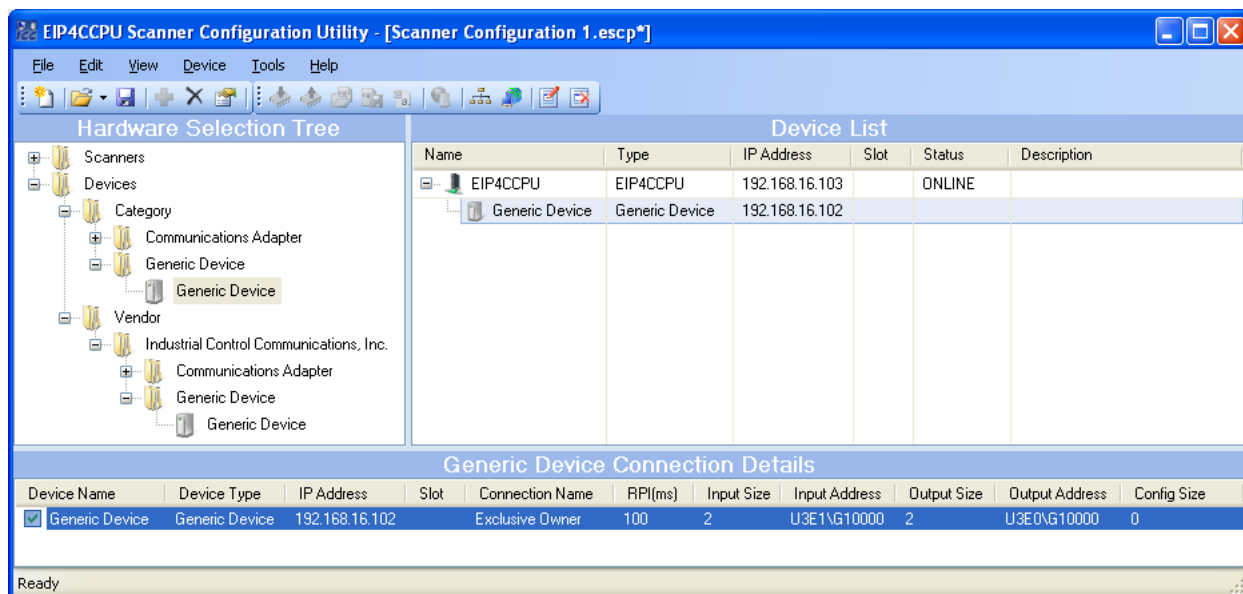

Figure 48: Added a Generic Device Connection
7. Click Accept. A Generic Device connection has been successfully added (see Figure 48).